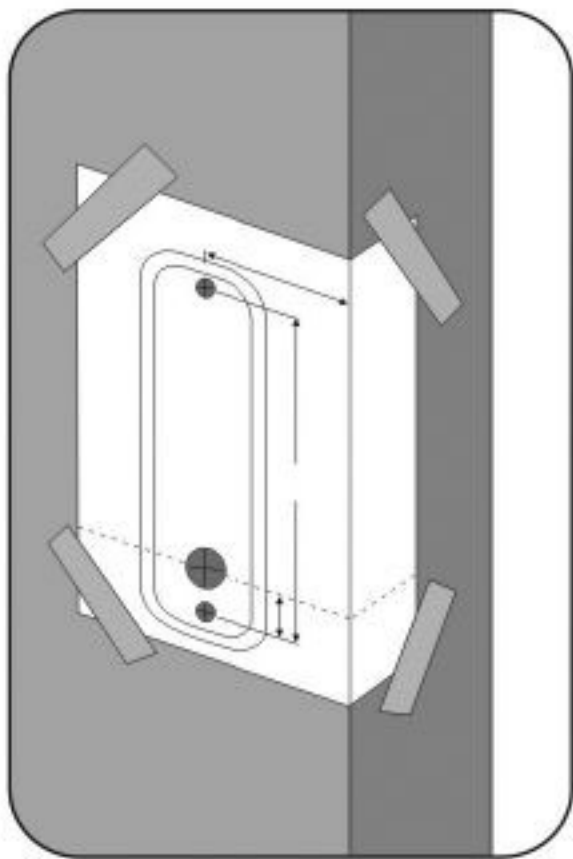

Figure 2
- Using a tape measure or the included door template as a guide, determine the backset distance of your door. Fold the template along proper backset line and carefully tape to door (see Fig.2). Ensure latch centerline on template is aligned with center of latch opening in edge of door.